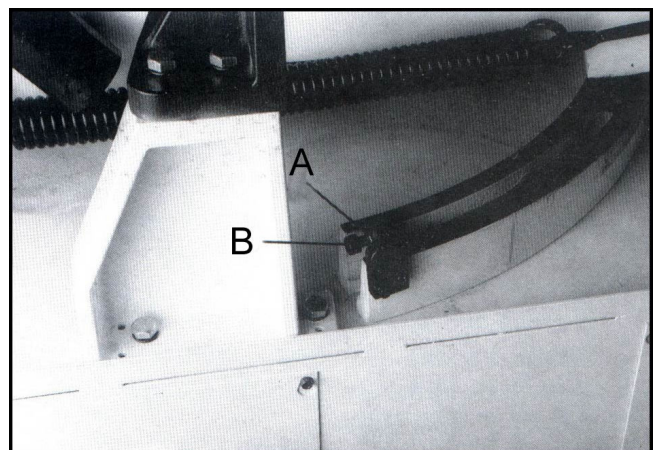

Fig. 14
5. Loosen the lock nut (A, Fig.14).
6. Adjust the hex cap screw (B, Fig.14) until the blade is at a 90° angle to the fixed vise jaw.
7. Tighten the lock nut (A, Fig.14).